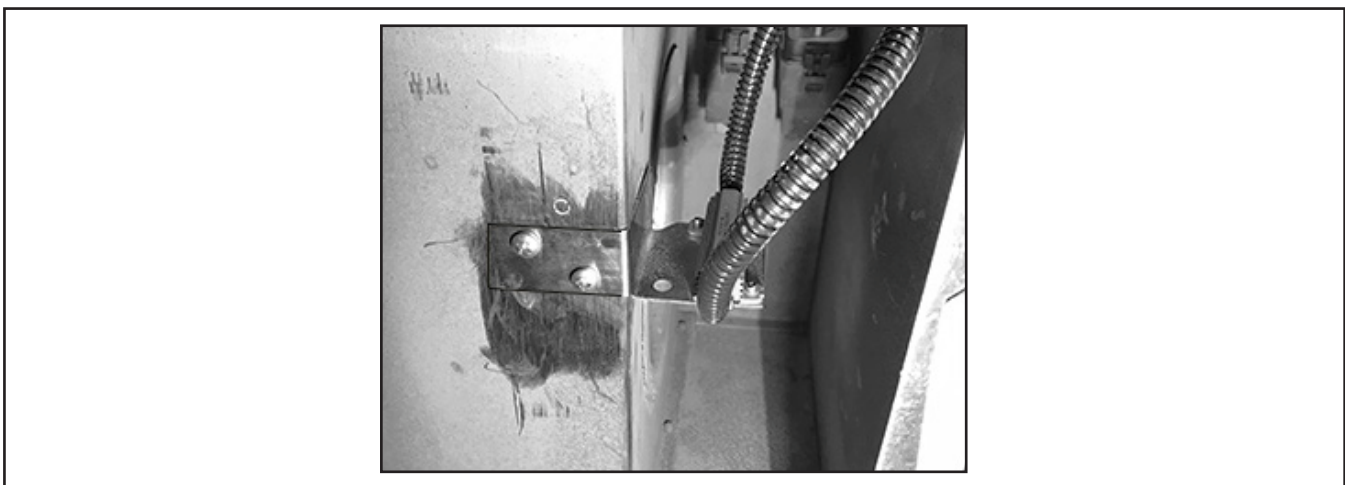

Figure 7 - Power Resistor Bracket Installed
- 1.10. Install the bracket with the two screws included in the Harness Kit (Figure 7).